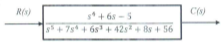

Figure 1: A closed-loop transfer function
- 1. a) Figure 1 shows a closed loop transfer function relating input $R(s)$ to output $C(s)$. Determine and analyse the stability of the following closed-loop transfer function. Identify all pole locations in the complex plane. (15) (CO 2) (PO 2) (K4)